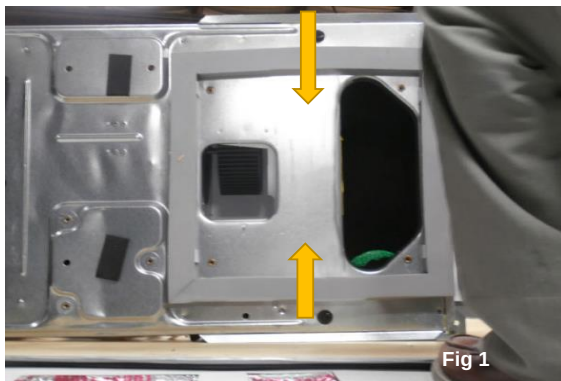

Fig 1
- 2 **Fig 1:** Clean area between ducts of air conditioner with alcohol, dry.